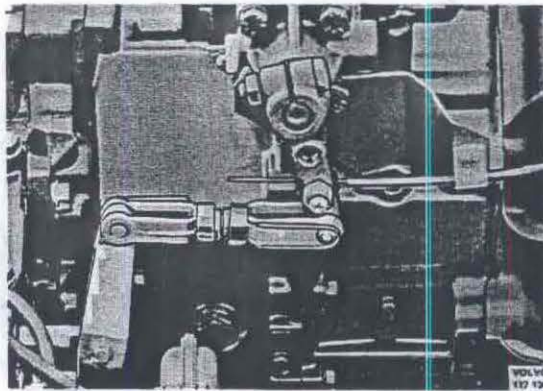
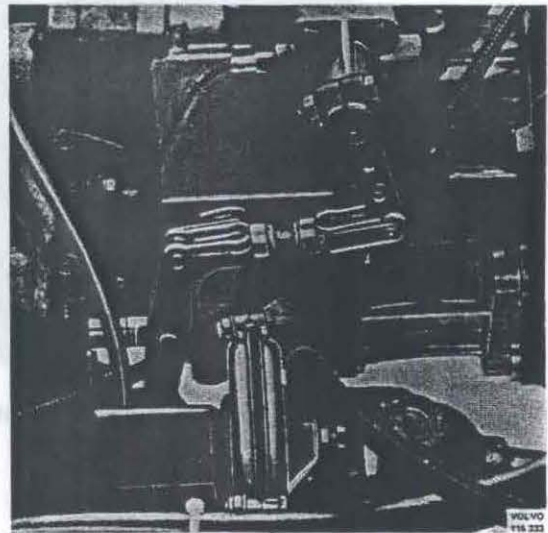

Fig. 43-133. Fitting the cable
Fig. 43-139. Link between gearbox and auxiliary gearbox
17. Place the auxiliary gearbox in neutral. Fix the cable for the gear position indicator in the lever, see Fig. 43-133.
3. Remove the link, Fig. 43-139, from the auxiliary gearbox. Remove the wire from the shift indicator, see Fig. 43-133, from the outer gear shaft housing.